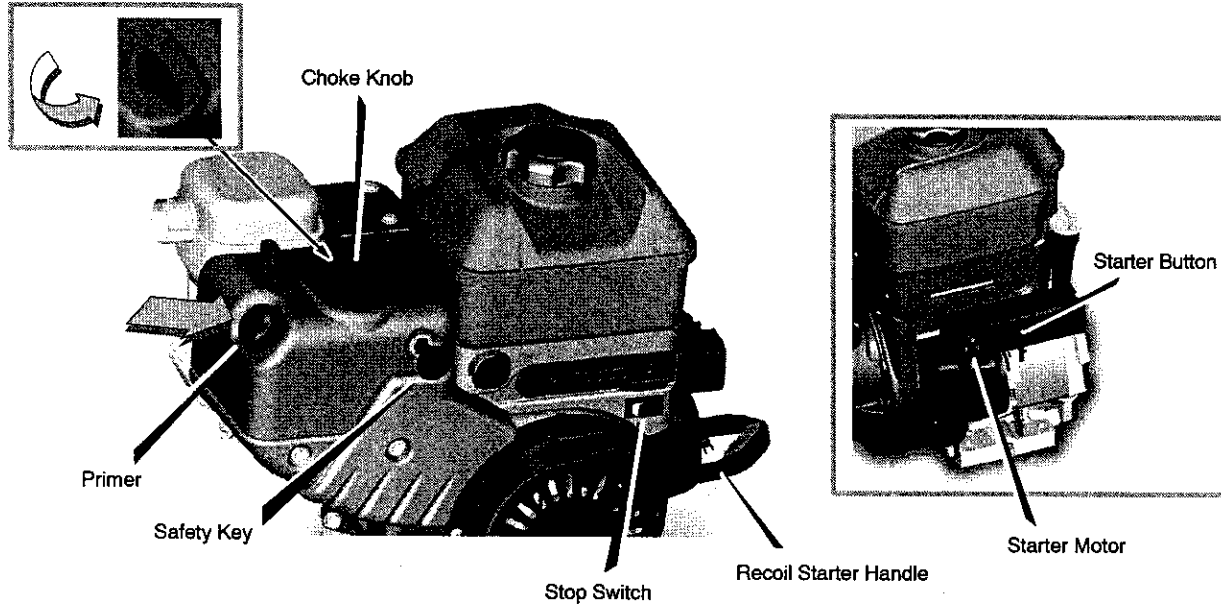

Figure 19
2. Push the **stop switch** to the ON position (see Figure 19).